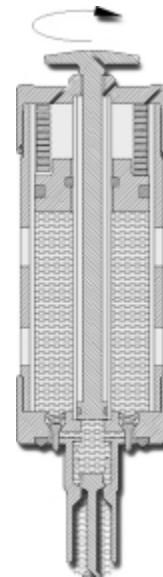

Fig. 6-6 Step 10
10. When cartridge is filled, twist handle clockwise - CLOSE (Fig. 6-6)